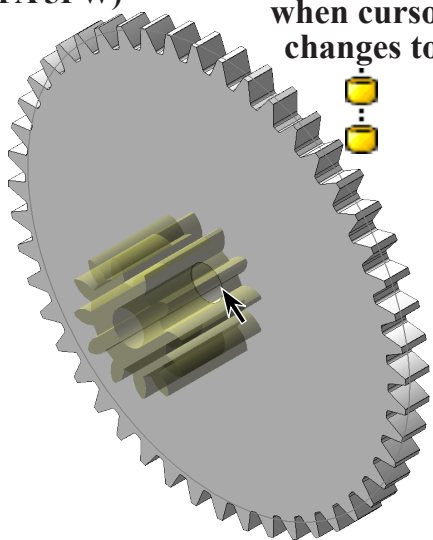

Fig. 11
Step 3. Position tip of your cursor near shaft hole in 48T, Fig. 11. When 12T snaps into place and cursor changes to indicate Concentric mate , click to release 12T.